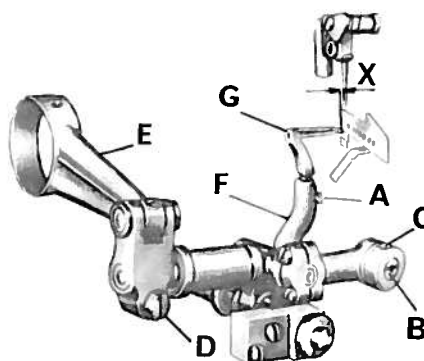

fig.11
- S. 1708.00 for all operations of chain stitch (fig. 11/12)
## 7. Chain stitch looper timing (fig. 11).